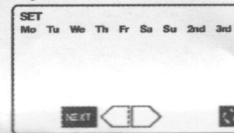

Figure 6
- Push CONFIRM button two more times to move past the time/day setting. The days of the week will be flashing. (See Figure 6)